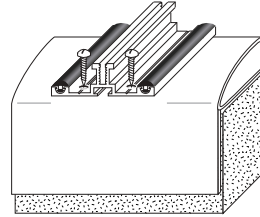

**Fig. 3**
**Step 1:** Fit the aluminium wall plate (Ref. 290). The wall plate can accommodate all Twinfix bar systems at angles ranging from 5 degrees to 25 degrees (Fig. 3). Fix the end plate for a neat finish to the ends of the wall plate.